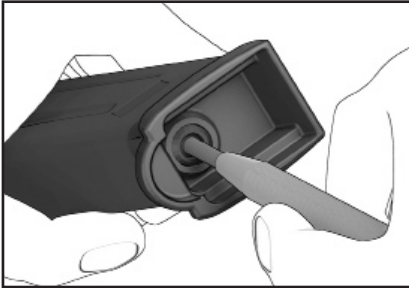

Figure 22
1. Using a blunt, pointed instrument, depress the locking insert detent located in the floor plate and hold it there (see Figure 22).